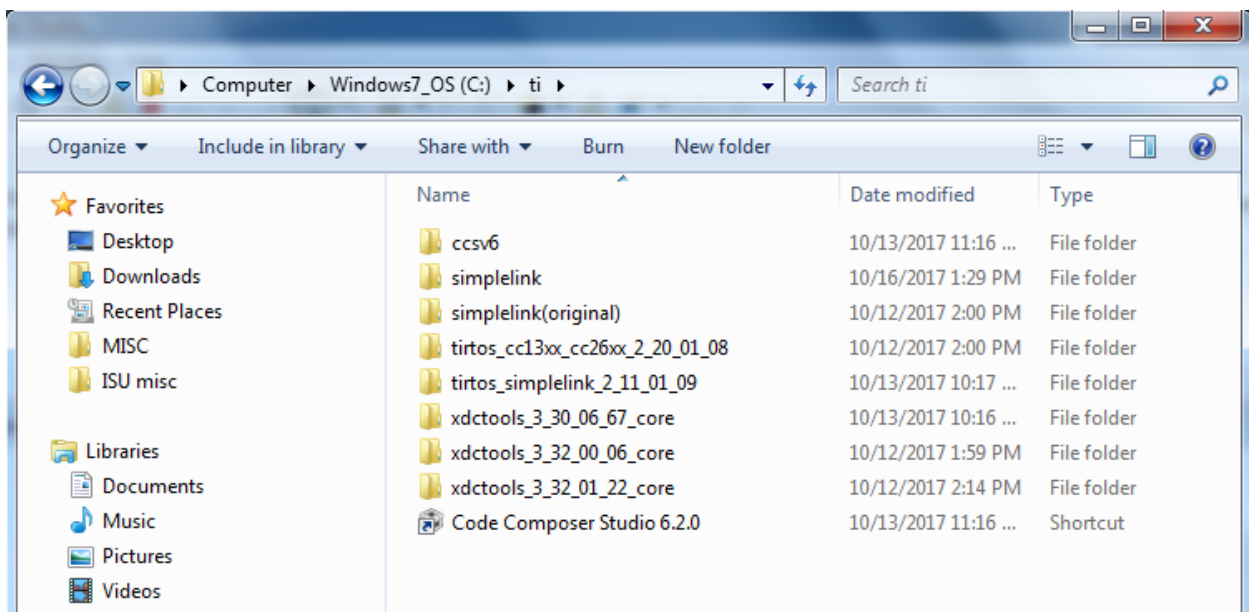

Figure 16, TI home directory after updating SimpleLink folder.
- h. Wait for the Extraction to finish. The TI home directory should now contain both the original simplelink folder and the provided simplelink folder (Figure 16).